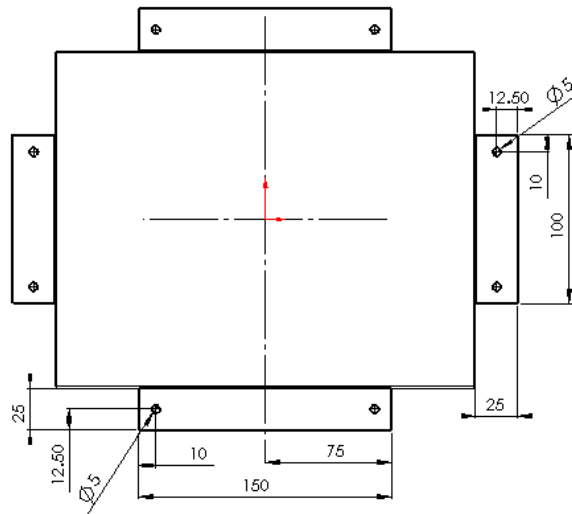

Figure 16-162 Sketch of the flanges
- Add the flanges to the sheet metal component, refer to Figures 16-162 through 16-164.
3. Create the sketch of the flanges as shown in Figures 16-162.